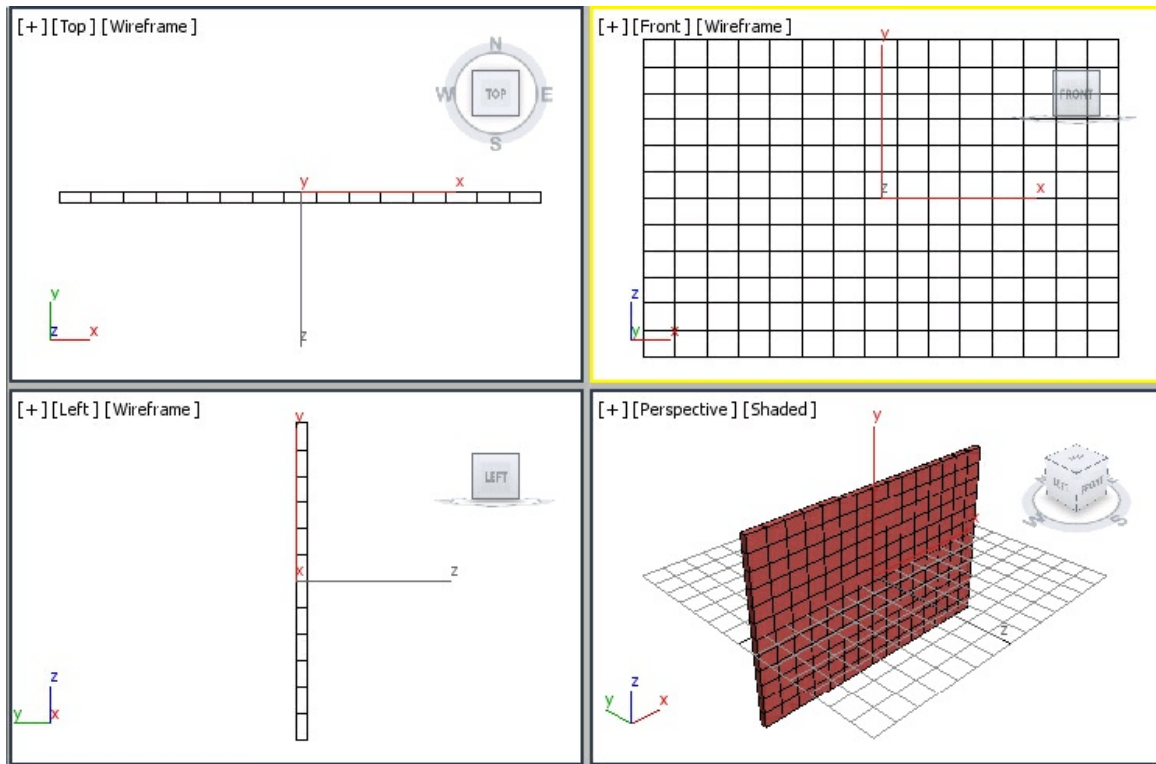

Figure 8-124 The box for the front portion of the monitor displayed in viewports
5. Choose the **Zoom Extents All** tool; a box is displayed in all the viewports, as shown in Figure 8-124.